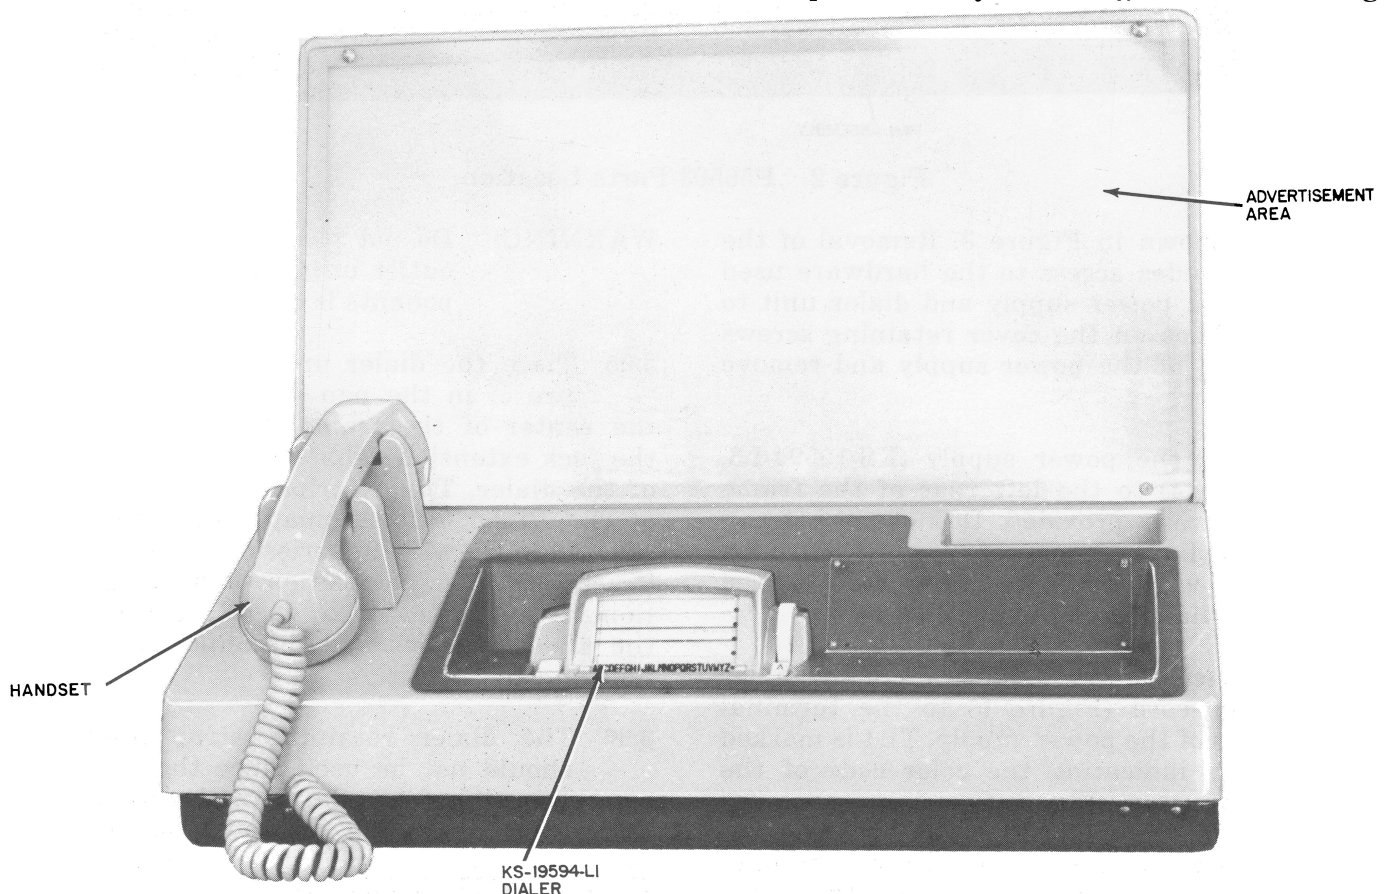
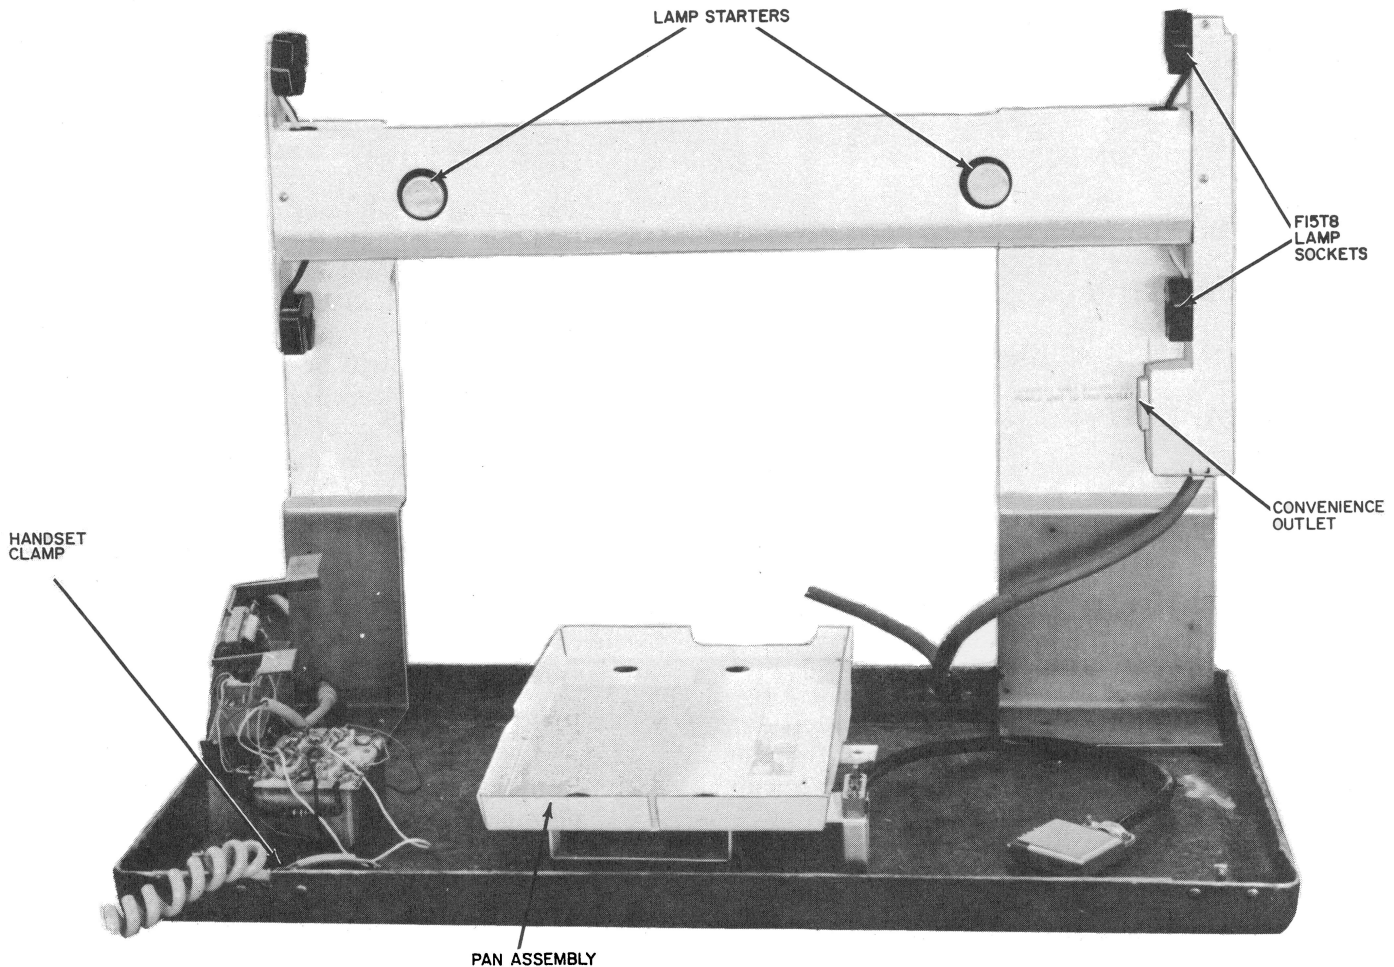
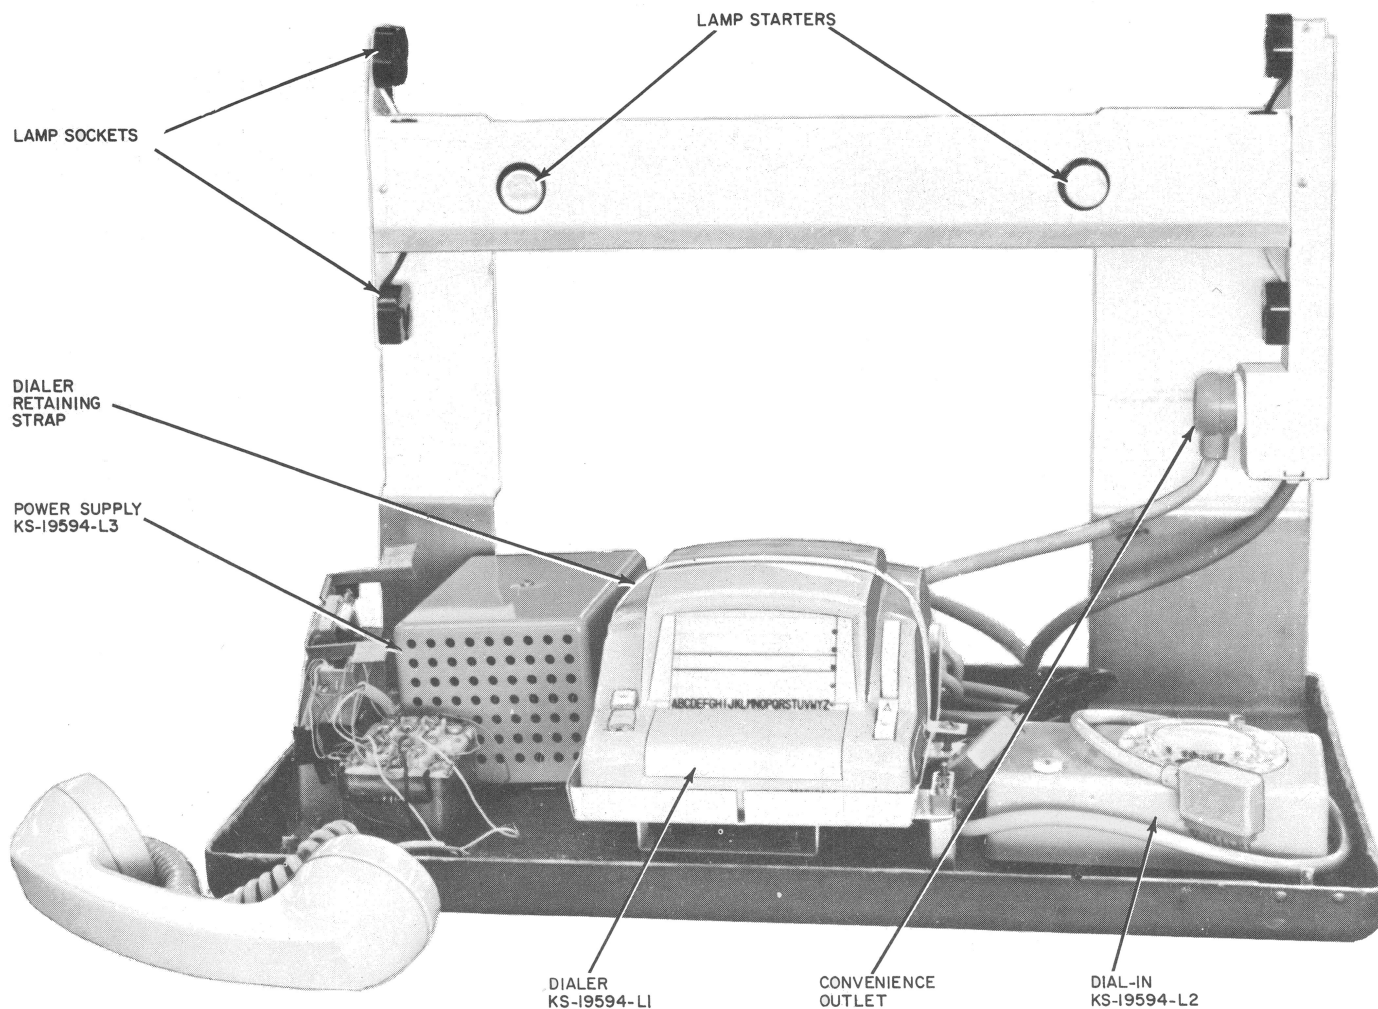
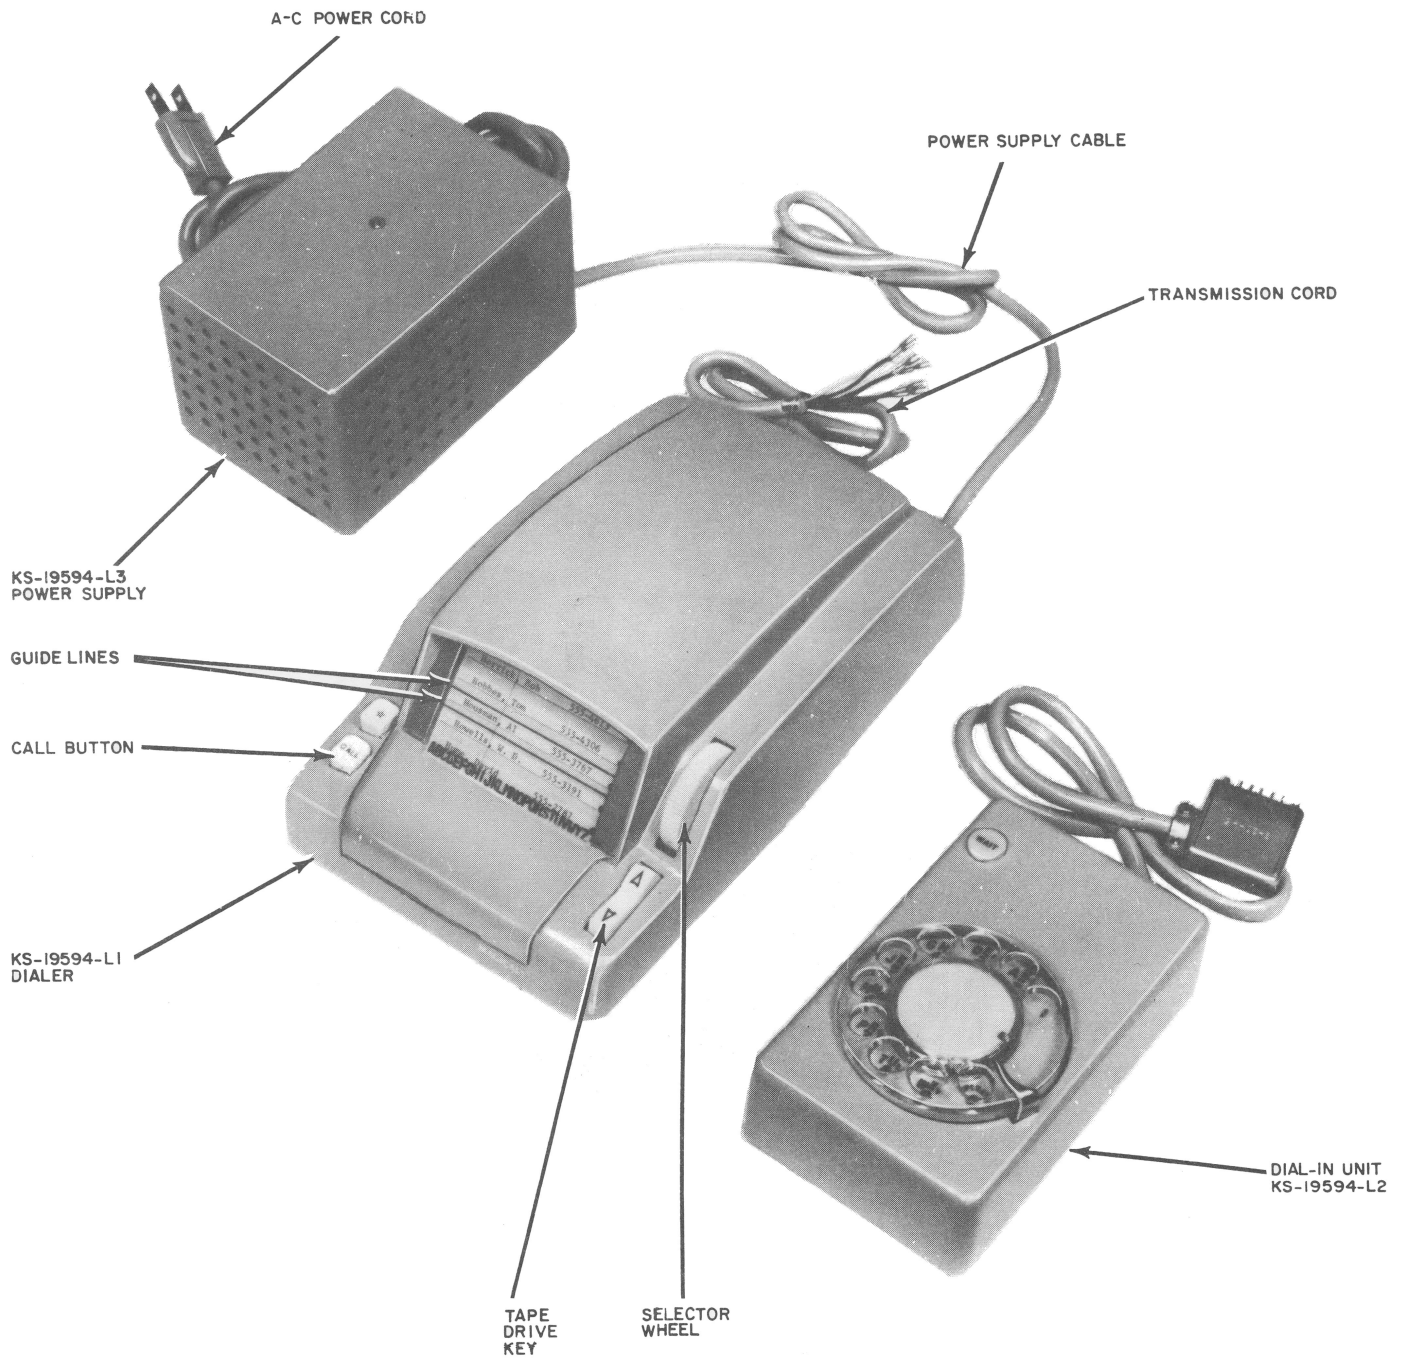

Figure 1. F56503 Telephone Set.
Figure 2. F56503 Parts Location.
Figure 4. F56503 Layout Assembly.
Figure 5. Control Assemblies.
2.01 The F56503 telephone set is a two-piece molded fiber glass unit approximately 17 inches high, 20 inches wide, and 13 inches deep. It is equipped with a lighted area to display customer advertisement (see Figure 1). The advertisement will be provided by the customer and will be installed by the craftsman during the installation of the F56503 telephone set. The advertisement area is a lighted area utilizing two 15-watt fluorescent lamps (see Figure 2). The lamps are of a standard type and can be ordered from a local supply outlet. The light circuit is wired directly to the ac power circuit and no provision has been made to turn it "on" or "off." Consequently, the advertisement area is illuminated at all times.
3.02 Secure the power supply (KS-19594-L3, Figure 4) to the left rear of the frame using the screws provided. Do not cut off any excess telephone or power cord (Figure 5). The excess cord should be folded and secured behind the dialer unit (Figure 4).
3.03 Connect the four conductors of the dialer power cord (Figure 5) to the terminal board (TB1) of the power supply. TB1 is marked with letters indicating the color code of the mating conductors (Figure 6).
3.05 Place the dialer unit (KS-19594-L1, Figure 5) in the pan assembly mounted in the center of the frame (Figure 2). Connect the jack extension cable connector to the rear of the dialer. The description and installation of the Dialer E2 Automatic **MAGICALL®** is covered in the 478-202 series of General System Practices. After completion of dialer installation, dress the cable to facilitate removal of the dialer unit without disconnecting the extension cable.
3.06 The dialer retaining strap (Figure 4) should not be used since the customers are responsible for updating and programming their own tapes. The customer should be instructed on how to remove the front cover so
3.07 Place the dial-in (KS-19594-L2, Figures 4 and 5) unit in its storage position in the right front corner of the frame (Figure 4).
3.08 Secure the handset cord clamp (Figure 2) to the left front of the frame and then install two 15-watt fluorescent lamps in the lamp sockets of the frame (Figure 2). Upon completion, connect the power supply input connector to the convenience outlet on the frame (Figure 2), and secure the power cord under the cable stay on the rear of the frame.